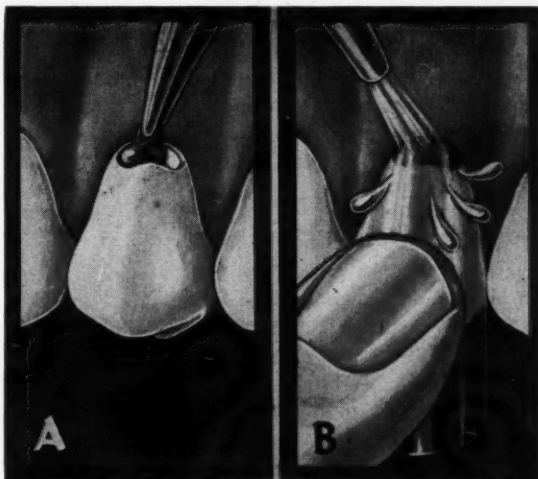

Fig. 11
Fig. 11—(A) Heat the tips of college pliers, pick up the wax, and flow it into the cavity. (B) Lubricate a Caulk's tubular celluloid matrix of the proper size with cocoa butter, force it to place over the wax, and chill. Finish the carving, and sprue. This method assures proper contour of the wax pattern.